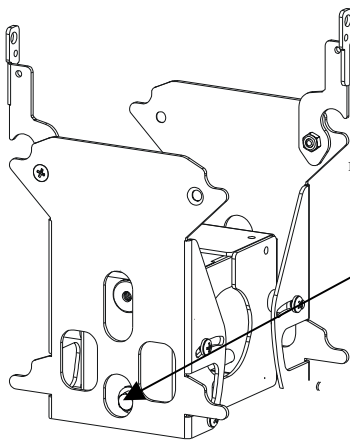

Figure 3
1. Assemble two pole-mounting bracket halves as shown in Figure 3 and secure using two 1/4-20 X 4.25" hex bolts and two 1/4" flat washers.